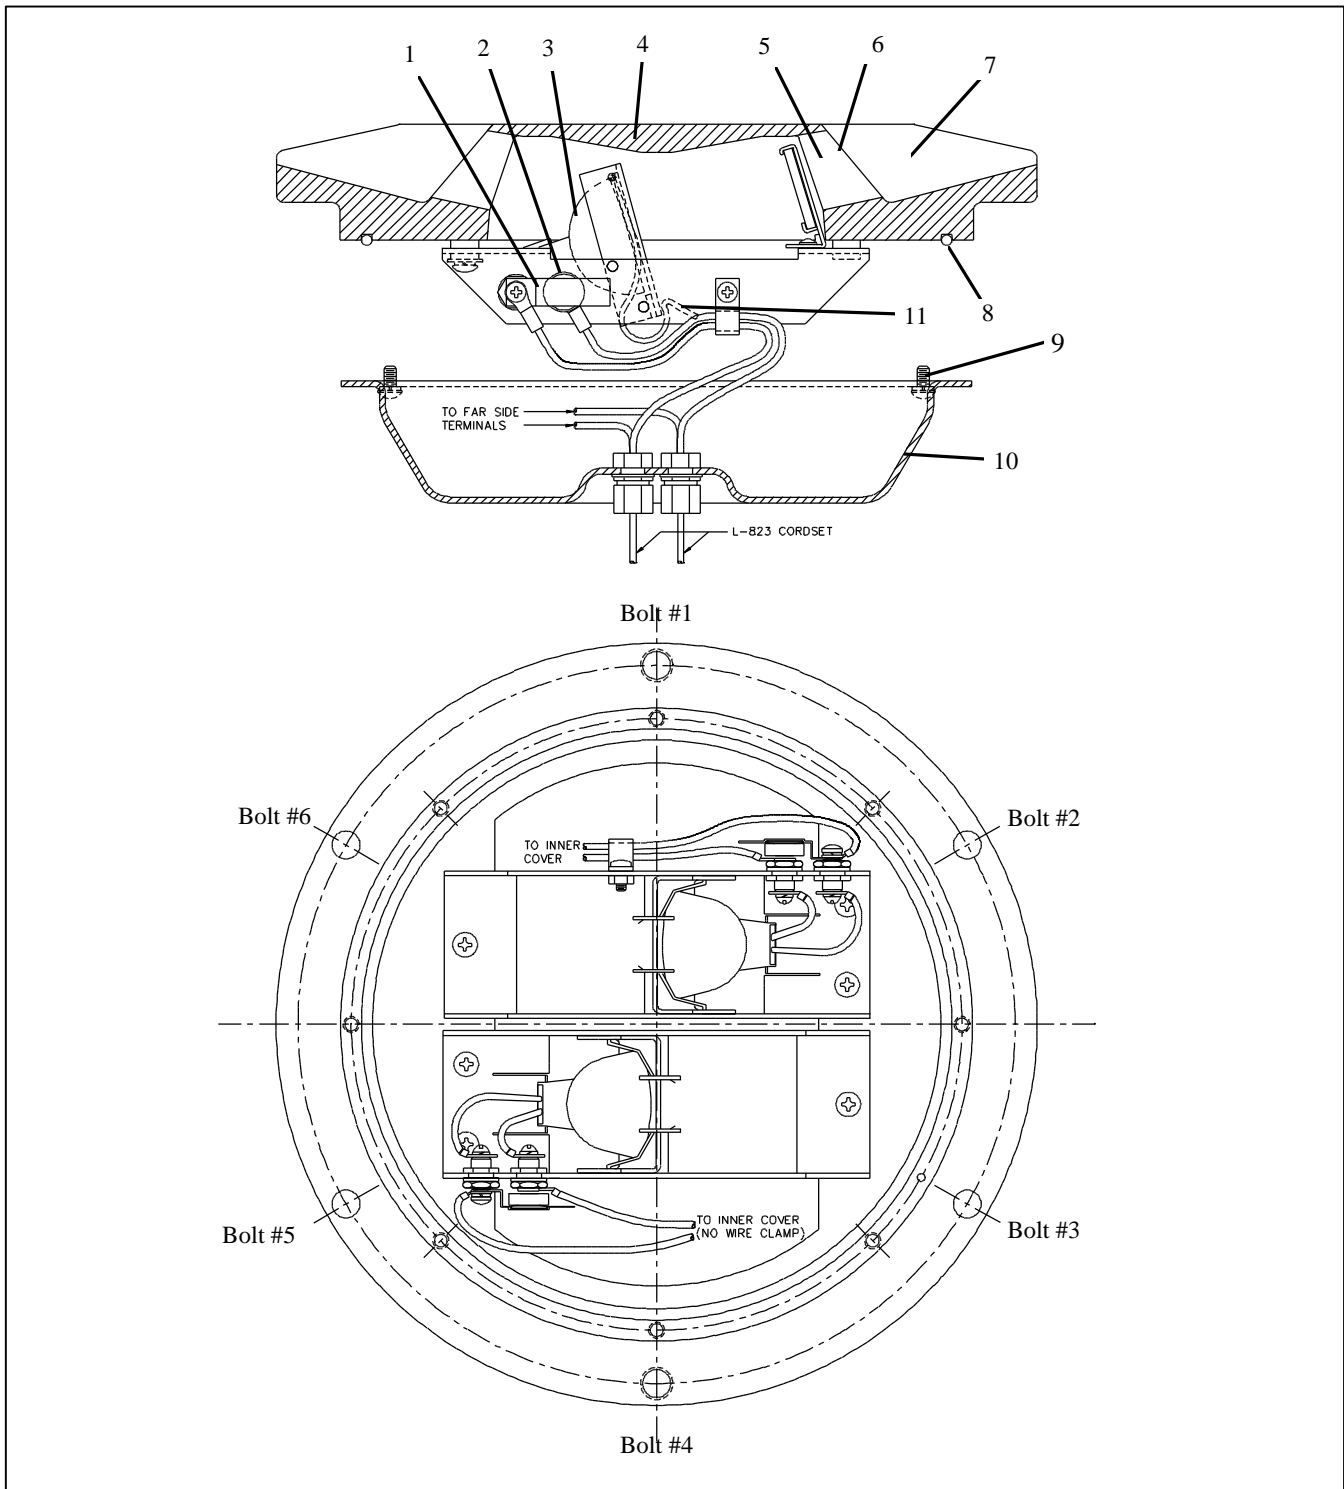

Figure 5. Cutaway View of Optical Assembly
1. See Figure 5. Use a suitable fiber brush to remove all accumulated debris from the light channel (7).
3. See Figure 5. Turn the fixture upside down and remove the eight pan-head screws (9) holding the inner cover to the top cover assembly.